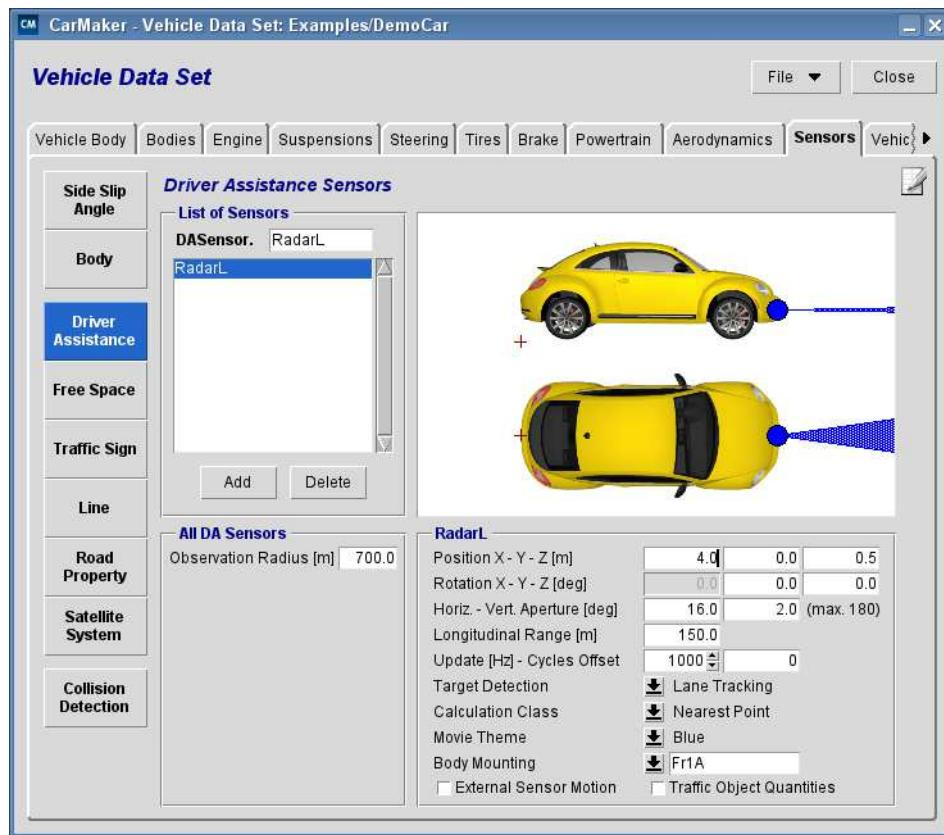

Figure 5.98: Definition of *Driver Assistance Sensors*
**DASensor.** Here you can enter a name for the current sensor, to alleviate the identification of the sensor quantities, e.g. in IPGControl. All User Accessible Quantities of this sensor will start with the prefix *DASensor.Name.\**. In the example in Figure 5.98, the UAs of this sensor will start with *DASensor.DA00.\**.
- RPSensor.** Here you can enter a name for the current sensor, to alleviate the identification of the sensor quantities, e.g. in IPGControl. All User Accessible Quantities of this sensor will start with the prefix *RPSensor.Name.\**. In the example in Figure 5.98 the UAQs of this sensor will start with *RPSensor.RP00.\**.